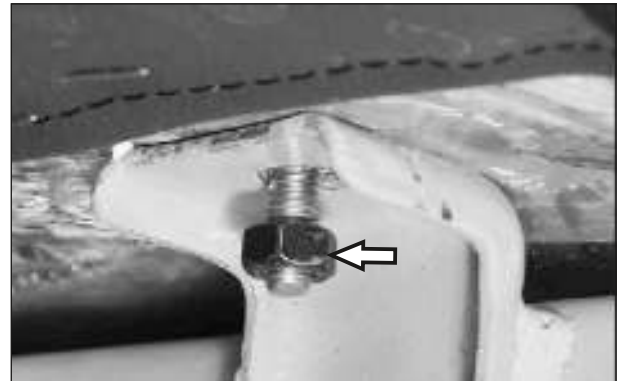

Fig. 2.64
- Loosen and remove 2 nos. Hexagonal nut M6 from Passenger seat bottom.(Fig. 2.64)